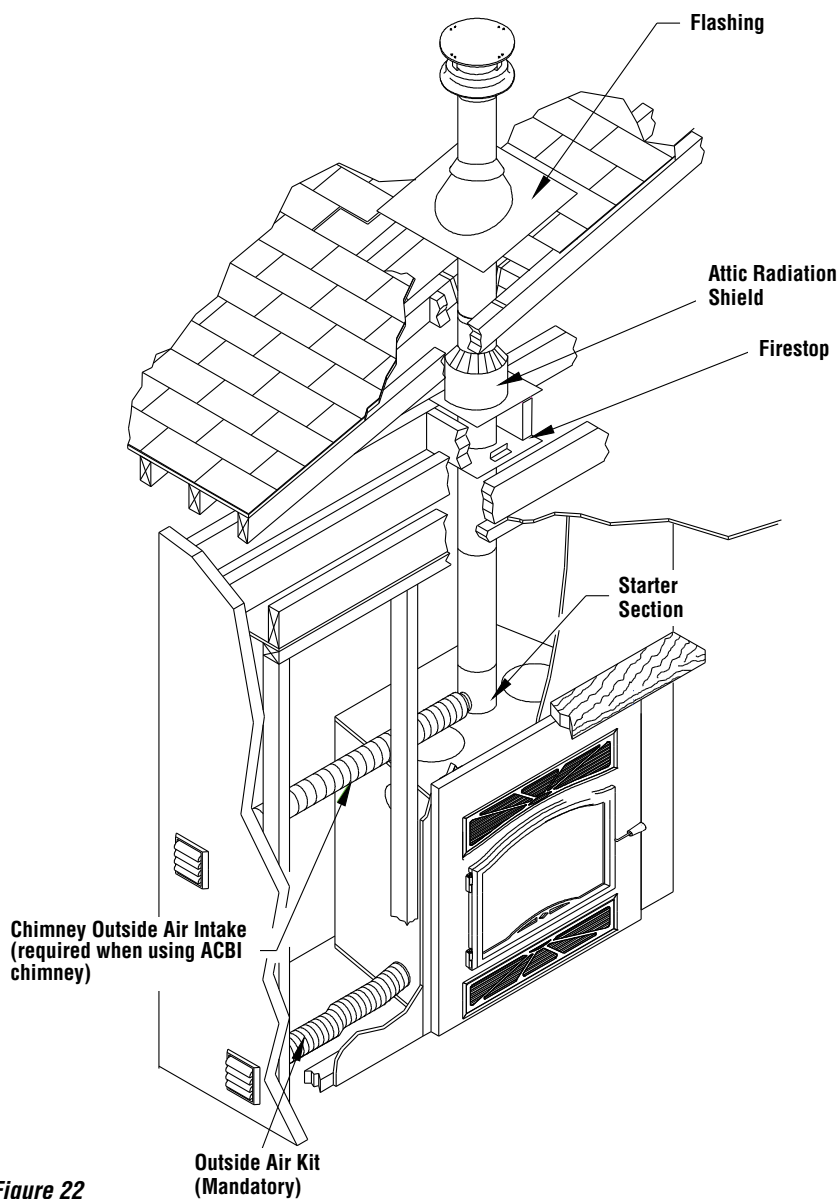
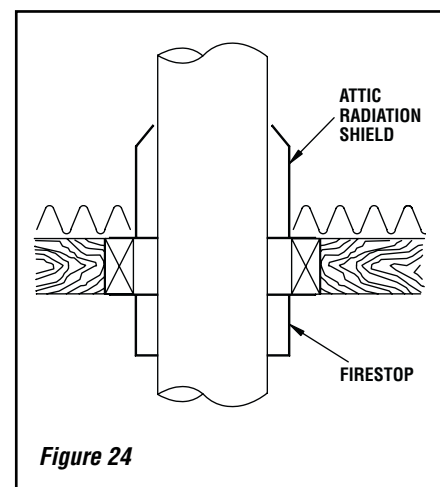

Figure 22
Figure 24
2. From below, install a firestop in each ceiling/floor separation through which the chimney will pass. At the attic level, install an attic radiation shield from above, (see **Figure 24**). S2100+* and ASHT+*: Place the first chimney length on the fireplace, to lock turn 1/4 of a turn clockwise. ACBI+I: A starter section must be installed before installing the first chimney length (see **Figure 22**).